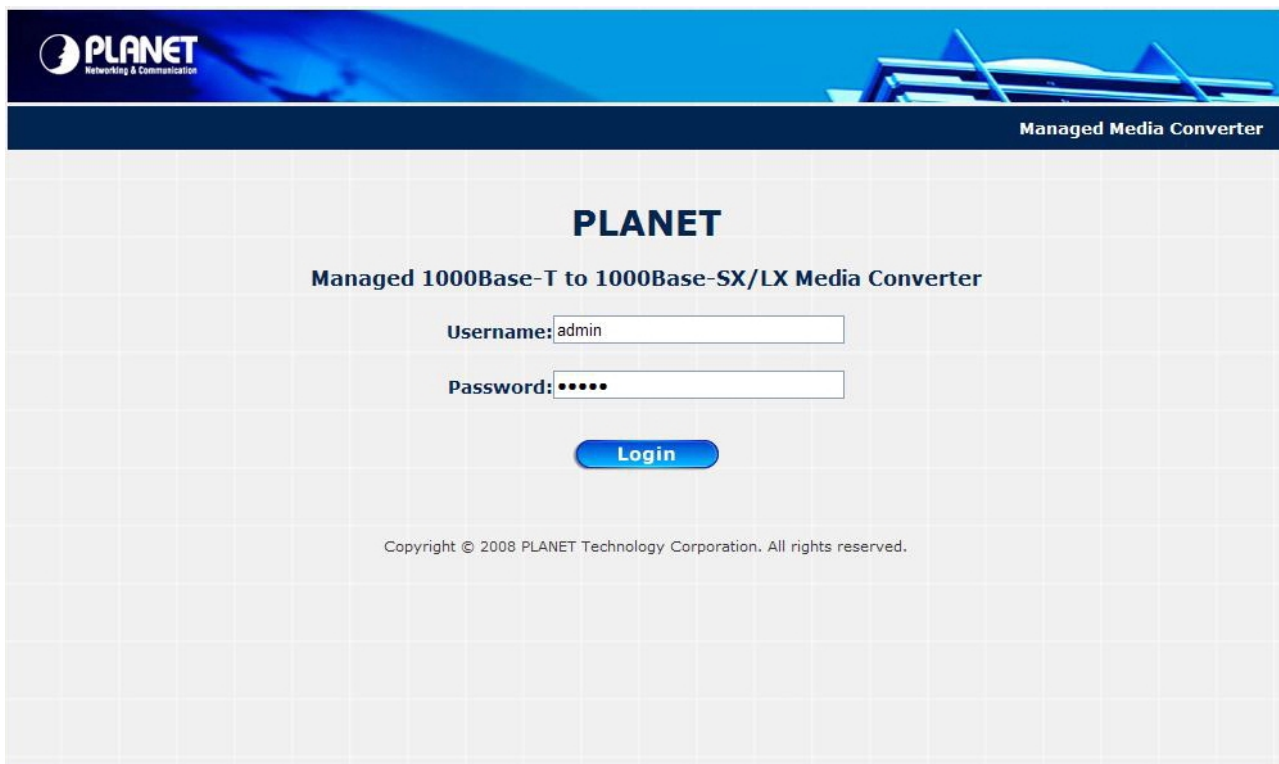

Figure 3-3 Login Web Page screen
6. Press “**Connect to Device**” button then the Web login screen appears in Figure 3-3.
When the following login screen appears, please enter the default username and password (default user name and password is “**admin**”). Press Login to enter the main screen of Managed Media Converter. The login screen in Figure 3-3 appears.